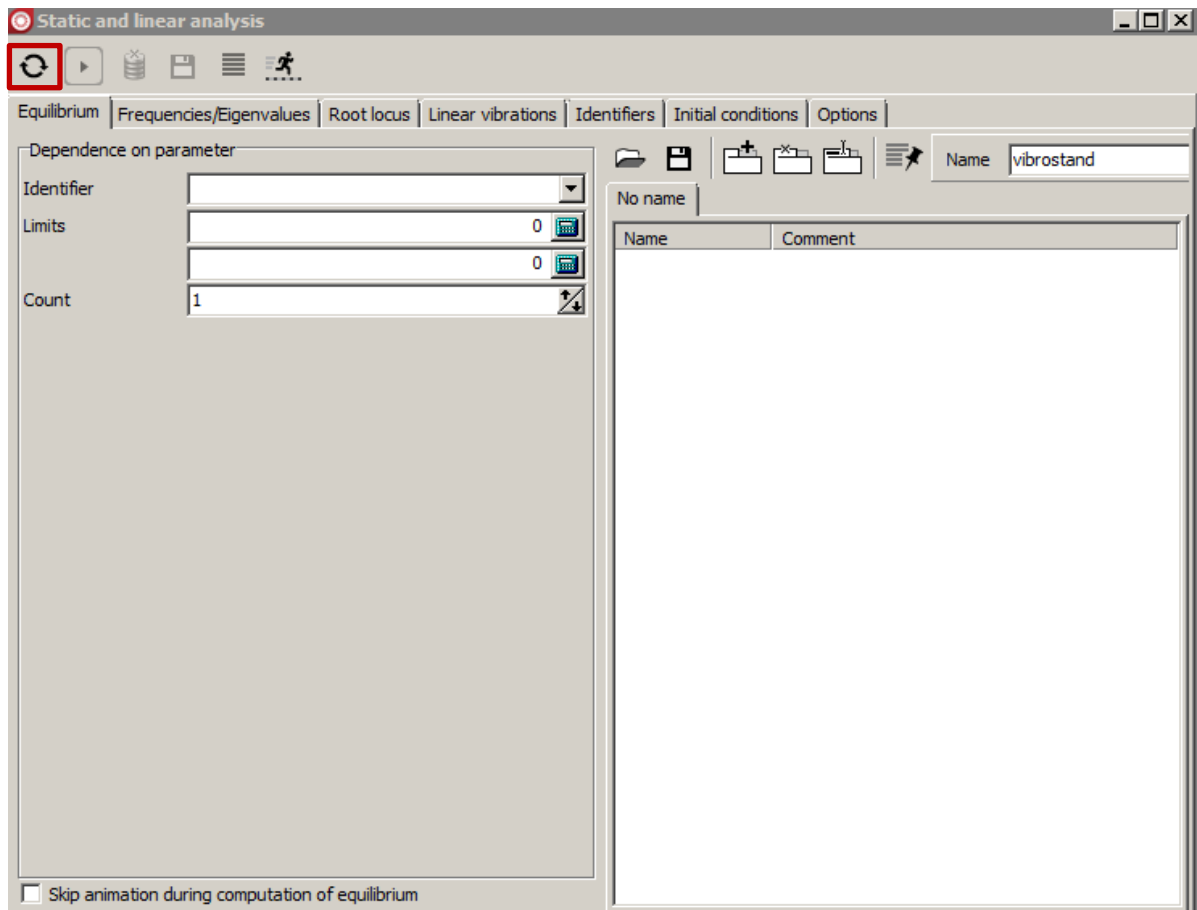

Figure 2.53.
3. Select the **Equilibrium** tab. Start the calculation by the **Run computations** button, Figure 2.53. Calculation process might take some time.